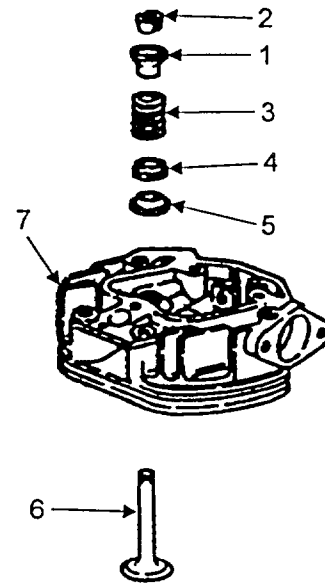
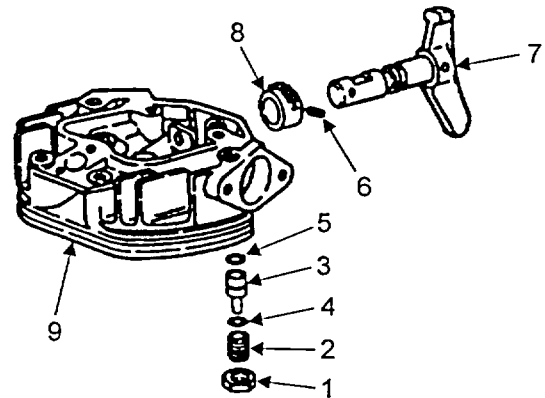

FIGURE 5-19. DISASSEMBLE VALVES
FIGURE 5-20. DISASSEMBLE DECOMPRESSION MECHANISM
- a. Press down cup (Figure 5-19, Item 1) and remove collets (2).
- b. Remove valve spring (3), washer (4) and cap (5).
- c. Remove valve (6) from cylinder head (7).
- d. Remove nut (Figure 5-20, Item 1) from threaded pin (2) Unscrew and remove pin (2).
- e. Using needlenose pliers, remove pin (3) with 10 spring plates (4) and preformed packing (5) attached.
- f. Remove preformed packing (5) Discard packing.